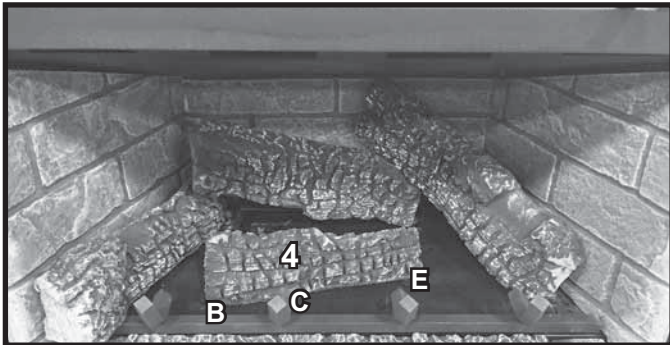

Figure 7. Log #4 Installed
**LOG #4:** Place the left tip of Log #4 against pin B and lay flat on the burner. Rotate the log forward until it contacts both pin C and pin E. Log will contact all 3 pins. See Figure 7.